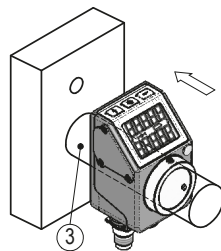
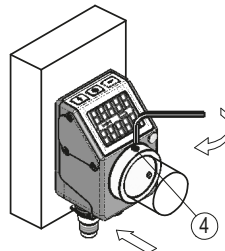

Fig. 2: Mounting
Fig. 3: Fastening torque for screws
**Preparing mounting (Fig. 1, Fig. 2, Fig. 3):**
1. Stick the attached self-adhesive sealing plate **①** (foam rubber) onto the bearing support or intermediate plate (to ensure the type of protection, correct uneven spots).
2. Make the bore ( $\varnothing$ ) for torque support **②** at distance (L1) to the drive shaft **③**.
3. Pay attention to the diameter ( $\varnothing$ D) of the drive shaft **③**.
### Mounting (Fig. 1, Fig. 2, Fig. 3):